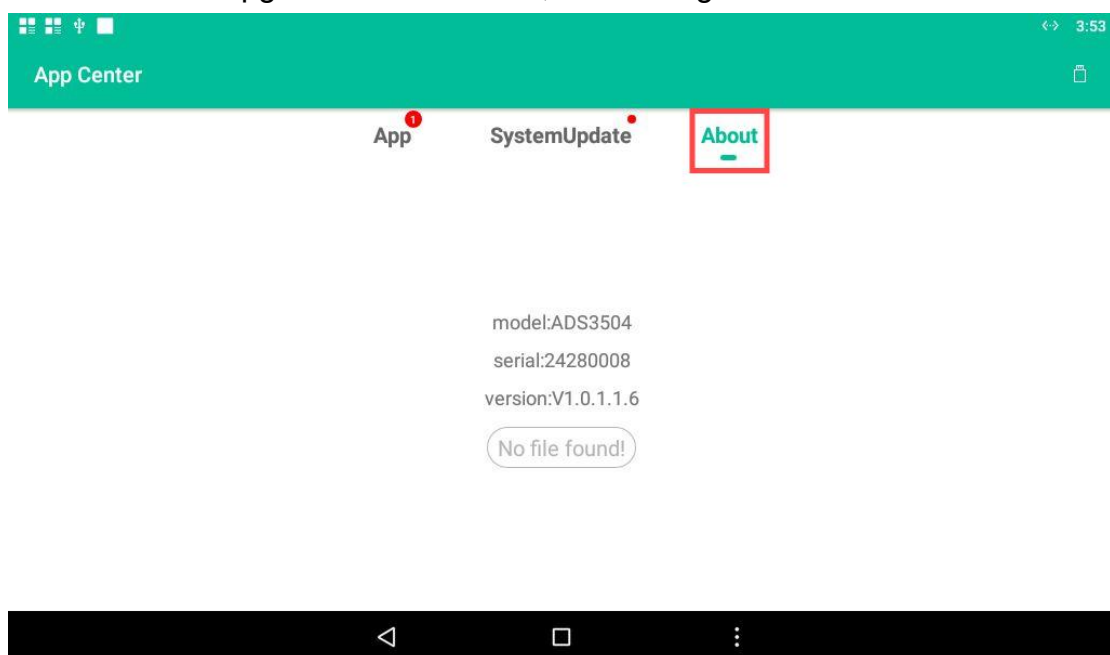

Figure 1-10
2. Insert the USB drive to automatically detect if there is an upgradable license file. If there is no upgradable license file, refer to Figure 1-10; if there is an upgradable license file, refer to Figure 1-11.